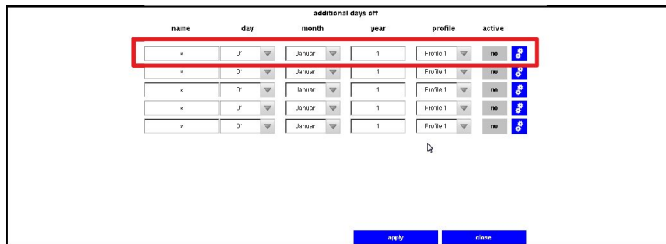

Fig. 35: Setting 'additional days off' (additional holidays)
- Press (Fig. 35) for an 'official day off' (public holiday).
- Press 'active' (Fig. 35) to activate the 'additional day off' (additional holiday).